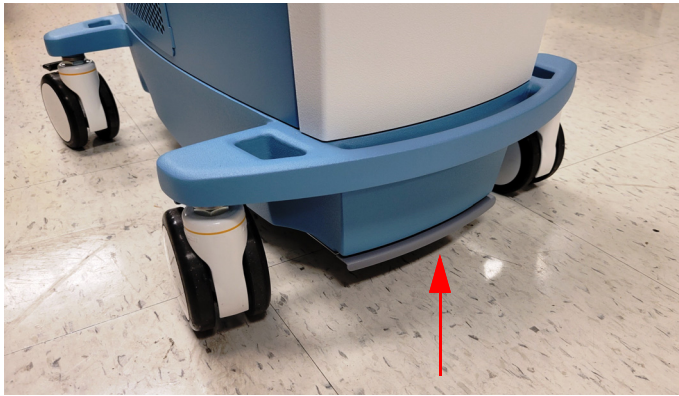

Figure 7.1. Condensate pan
- Slide out and remove the condensate collection pan from under the front of the console (see Figure 7.1).